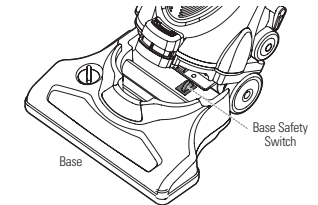

Fig. 10
- **CAUTION:** The headlight and brush does not come on when in the upright position even if the switch is ON. You must release the handle for the brushroll to begin spinning. (Fig. 10)